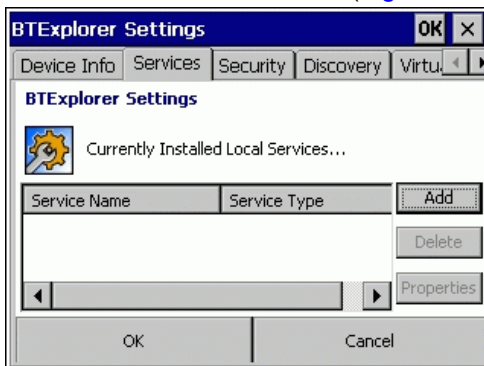

Figure 2-116 BTE Explorer Settings Screen
2. Select **Add** in *Figure 2-116* and choose a service from the list.